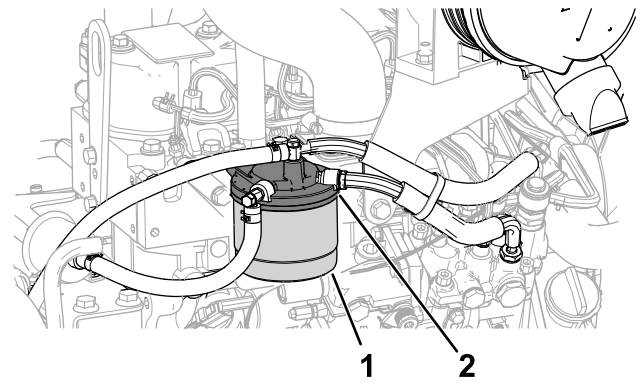

Figure 58
2. Remove the filter and clean the filter head mounting surface (Figure 58).
1. Clean the area around the fuel-filter head (Figure 58).